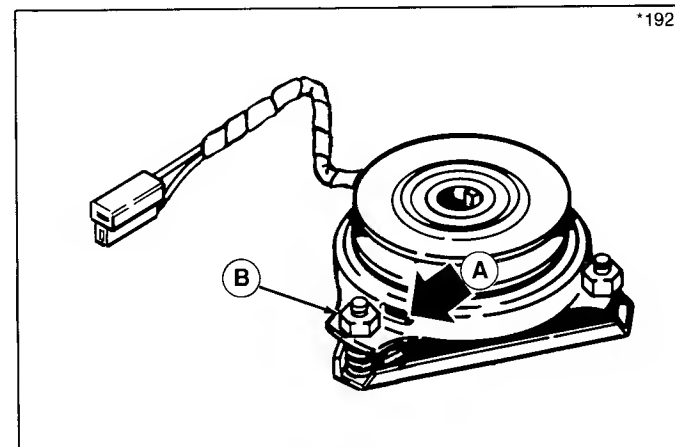

Figure 45. PTO Clutch Adjustment
1. Use a 0.010 to 0.012 feeler gauge to check the electric clutch at three places (A, figure 45). Insert the gauge. There should be a slight resistance as gauge is moved in and out of slot. If tight, or loose, go to step 2.
2. Loosen or tighten one of the nut (B) to adjust one of the three places. Loosen nut to increase gap; tighten to decrease gap.